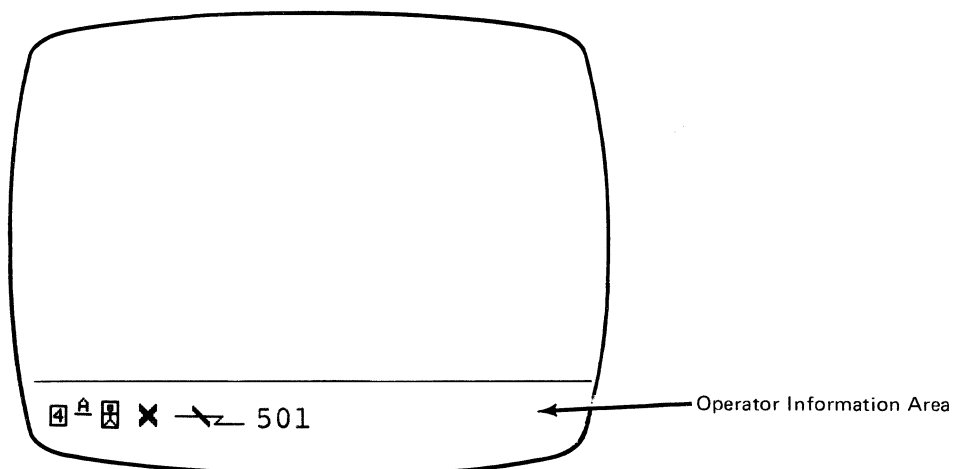

Figure 2-12. Operator Information Area
- If the following display symbols are indicated in the Operator Information Area (Figure 2-12) or provided in the Status Error Logs, see Figure 2-13. See the *3274 Models 51C, 52C, and 61C Maintenance Concepts Manual, SY27-2528*, for nnn codes not listed and for additional information